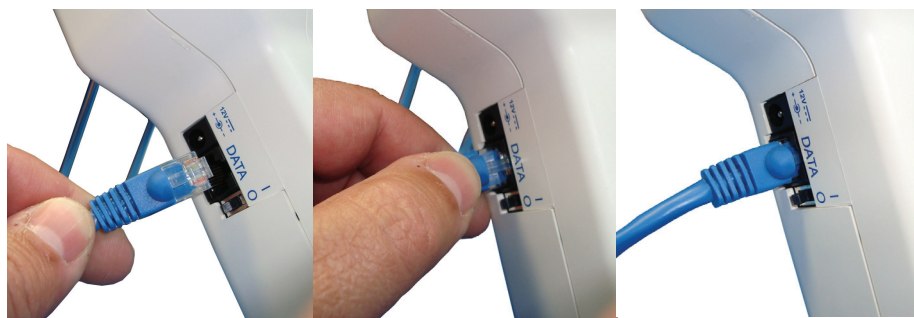

Figure 3-13 Connecting RJ45 Data Communications Cable
1. To connect to the HANDHELD, insert the RJ45 end of the HANDHELD data communications cable to the DATA port as shown in Figure 3-13.